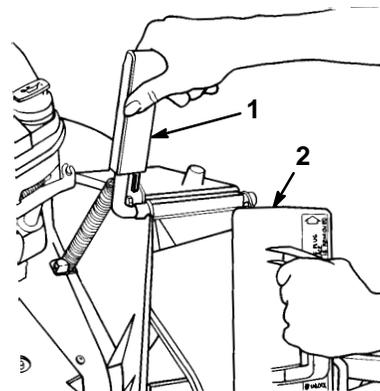

**Figure 5**
- Insert bottom tabs of air cleaner cover into slots. Rotate cover upwards and snap into place (Fig. 5).